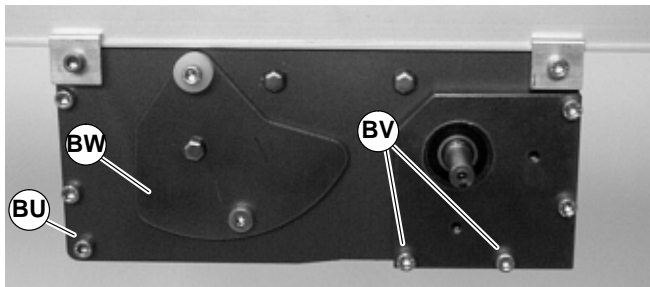
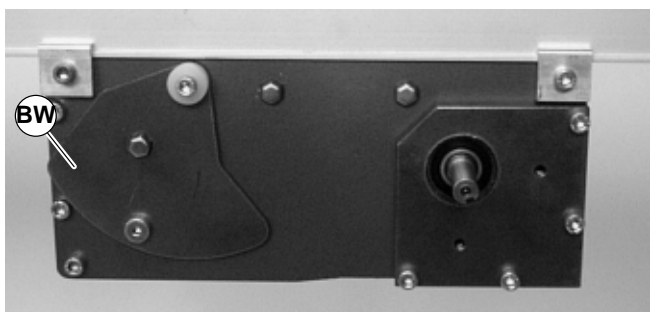

Figure 32
Figure 33
12. Tighten corner screws (BU of Figure 32) on each side of the drive module to 9 Nm.
13. Re-install tension door screws (BV of Figure 32) on each side of the module. Tighten screws to 9 Nm.
NOTE: For a new belt, the tension plate will be in position indicated in Figure 32 (BW). When the tension plate extends to position indicated in Figure 33 (BW), the conveyor belt must be replaced.